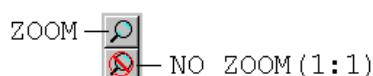

Figure 28 : ZOOM TOOLBAR
A first click on the *Zoom* button (Figure 28) or on *Zoom* on the *Tools* menu (Figure 24) changes the cursor in and allows you to zoom in the bulkhead view by simple click on it.
A second click on the *Zoom* button (Figure 28) or on *Zoom* on the *Tools* menu (Figure 24) changes back the cursor in and allows you to work on your zoomed bulkhead view.
- click on the *No Zoom (1:1)* button (Figure 28) to bring back the view to the initial size.